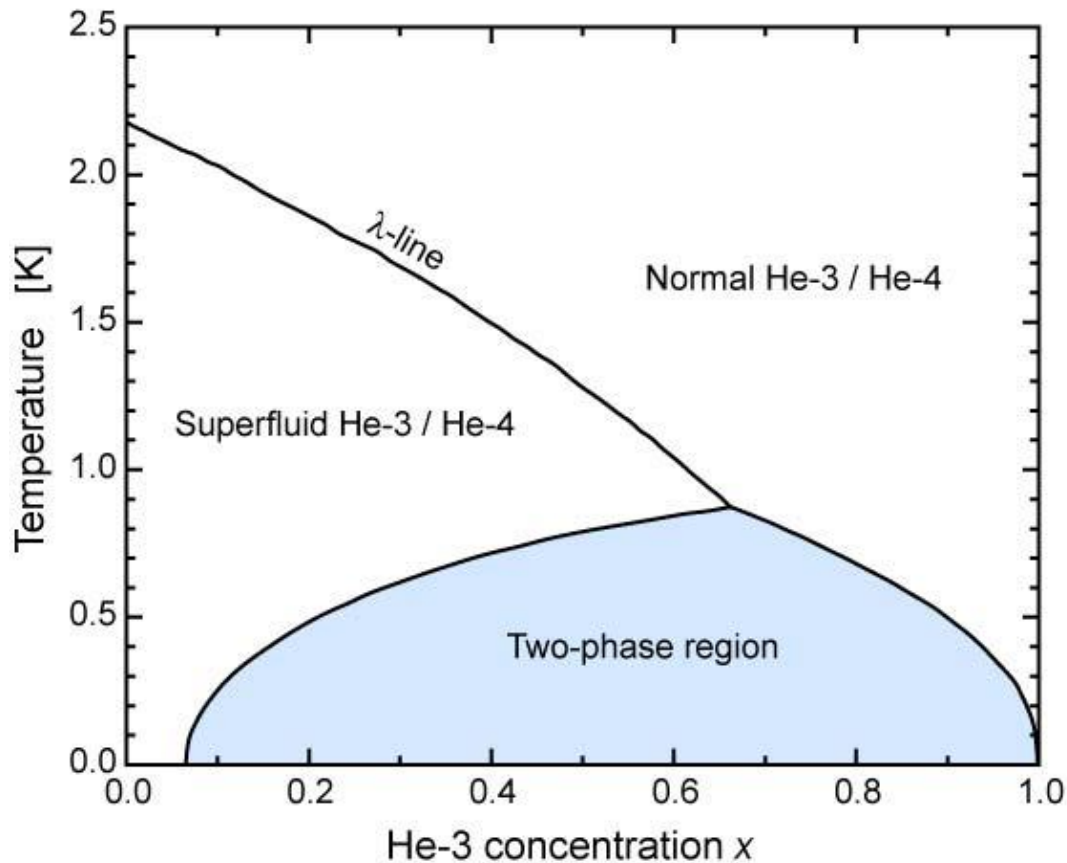
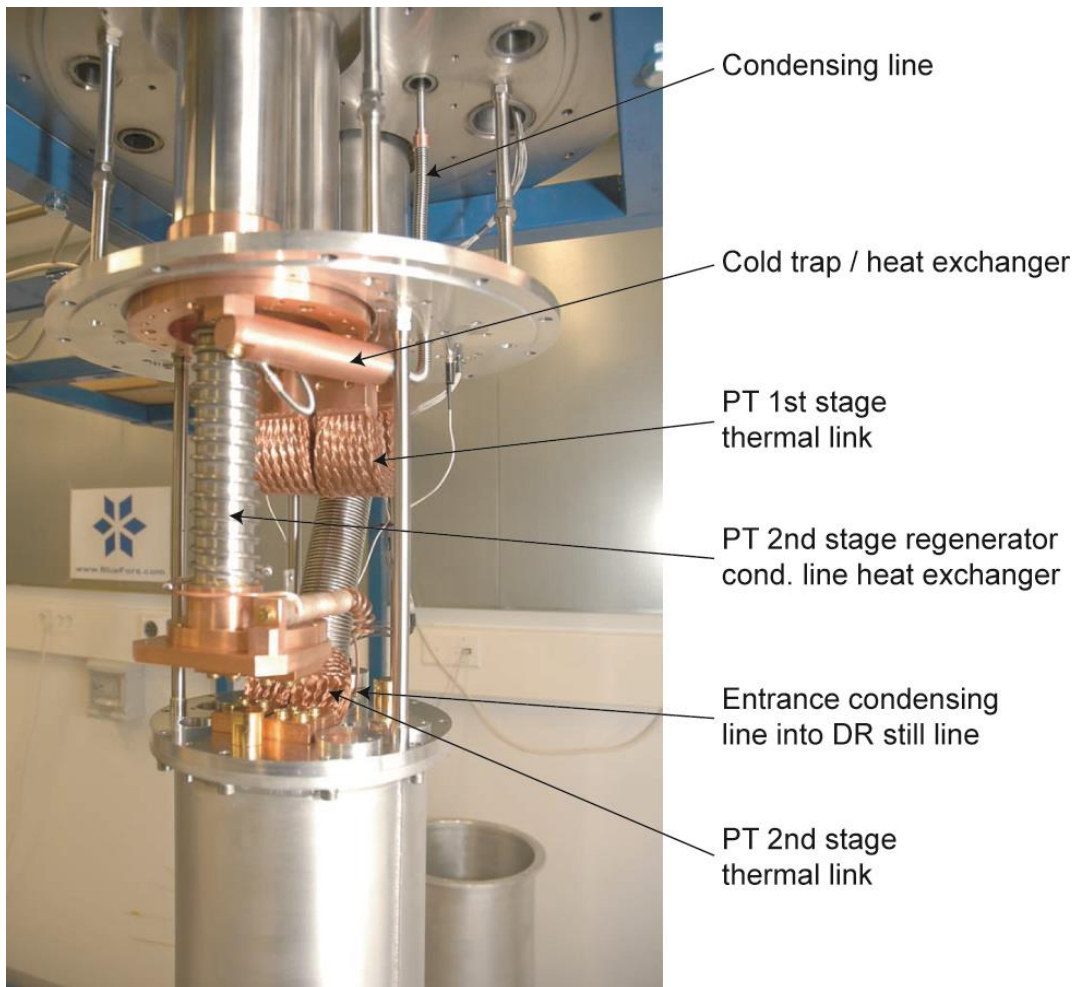
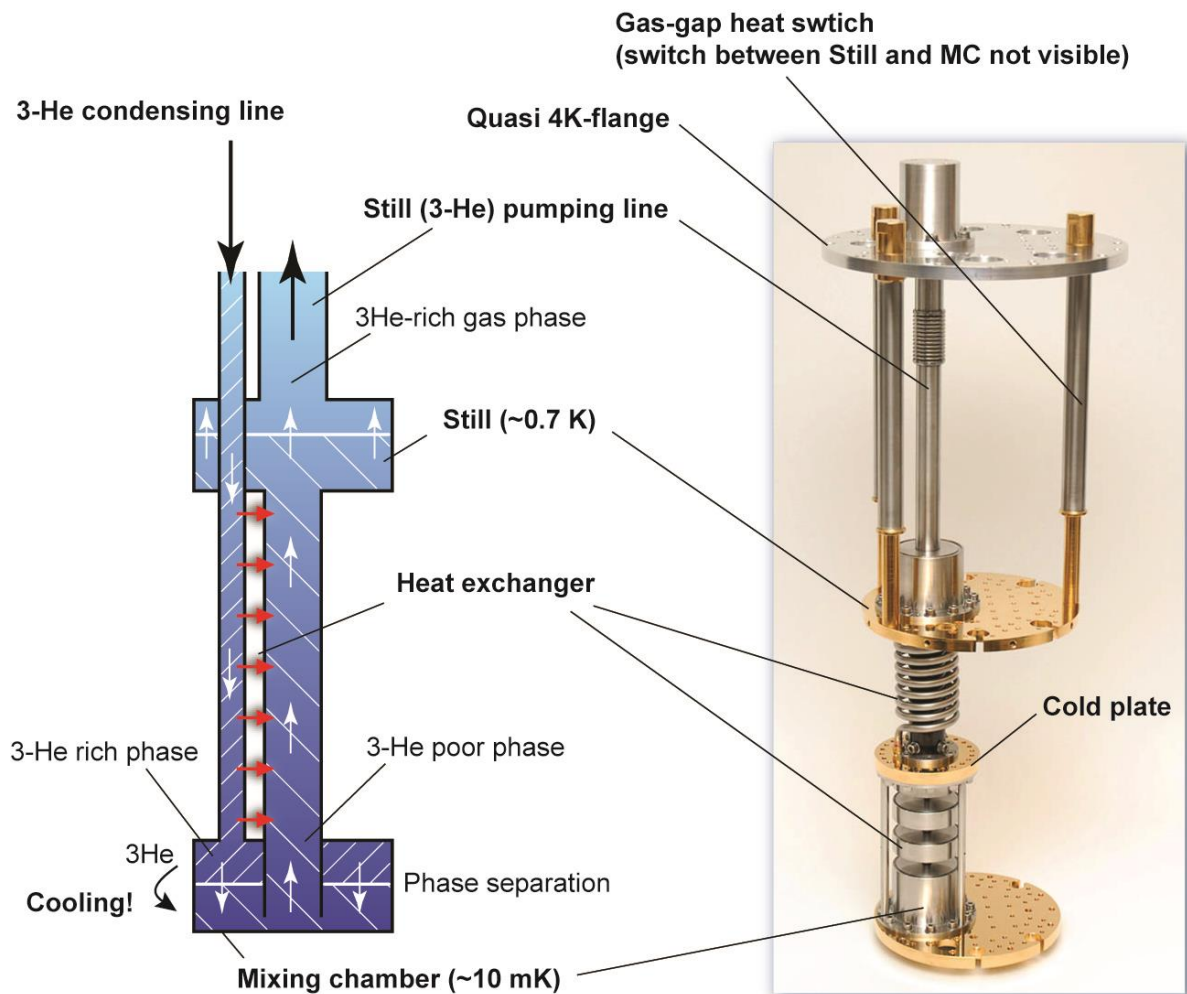

Figure 1. Phase diagram of He-3/He-4.
Figure 2. Details of 50K flanges and condensing line (model BF-SD250).
Figure 3. Dilution refrigerator principal parts.
The cooling cycle is possible due to special and fortunate properties of $^3\text{He}/^4\text{He}$ mixtures at low temperatures. At saturated vapor pressure pure ^4He undergoes a phase transition at 2.17 K from a normal fluid into a superfluid (resulting in completely different properties of the two isotopes below this transition temperature). Diluting the ^4He with ^3He results in a decreasing superfluid transition temperature, see Figure 1. At temperatures below 0.8 K (depending on concentration) the $^3\text{He}/^4\text{He}$ mixture will separate into two phases: a ^3He rich phase (concentrated phase) and a ^3He poor phase (dilute phase). Approaching absolute zero temperature, the concentrated phase becomes pure ^3He while in the dilute ^4He rich phase there
A traditional (not cryogen-free) DR is situated inside a separate vacuum can which is surrounded by liquid helium (4.2 K). Initially the DR is pre-cooled to 4.2 K by admitting exchange gas into this inner vacuum can. In addition to the pre-cool from room temperature to 4.2K, the liquid helium bath serves as a low temperature radiation shield and it pre-cools the incoming 3-He gas which is circulated in the DR. In this system the Cryomech Inc. Pulse Tube (PT) cooler delivers low enough temperatures to start the DR cycle. The flanges of the 50K and quasi-4K radiation shield are connected to the two stages of the pulse tube (see Figure 2). This is done through flexible copper braids to damp any possible vibration caused by the PT. The whole radiation shield assembly is in one common vacuum space to thermally isolate
it from its surroundings. The incoming 3-He gas is pre-cooled to <4.2 K by different heat exchangers. First there is a cold trap at approximately 50K (see Figure 2), which takes any out any contamination of circulation by freezing it but also serves as a heat exchanger. After that the incoming gas is thermalized at the regenerator tube and the 2nd stage of the PT (see Figure 2).
Figure 3 shows the principle parts (and their typical operation temperature) of our DR: quasi 4K flange, still, heat exchangers, mixing chamber and heat switches. The heat switches are needed because our system has only one common vacuum can which makes the use of exchange gas not feasible. Hence they are used for the initial pre-cool of the DR with the PT from room temperature to low enough starting temperature (approximately 4.2 K). Heat switches (HS) are installed between the quasi 4K-
After the DR is pre-cooled to $<4.2\text{ K}$, the 3-He/4-He mixture has to be condensed into the system. With a compressor the pressure of the helium mixture is raised to about 2 bar. The heat exchangers in the incoming condensing line pre-cool the pressurized mixture to low enough temperature for it to (partly) condense after the main flow impedance of the system (because of the Joule-Thomson effect). In our system the condensing line enters the still pumping line just above the quasi 4K flange (see Figure 2). The flow impedance is located inside the top part of the still. After all mixture is condensed it makes up enough liquid to fill the mixing chamber, heat exchangers and part of the still. The DR is now started by pumping the still. The helium pumped away from the still is returned into the system through the condensing line. Pumping the still will result in evaporative cooling, dropping its temperature to $<0.8\text{ K}$. Hence phase separation of the mixture will occur (see Figure 1). Because of gravity, the heavier 4-He rich (dilute) phase will start to collect on the bottom of the mixing chamber. Eventually the dilute and concentrated phase will settle as shown in Figure 3.